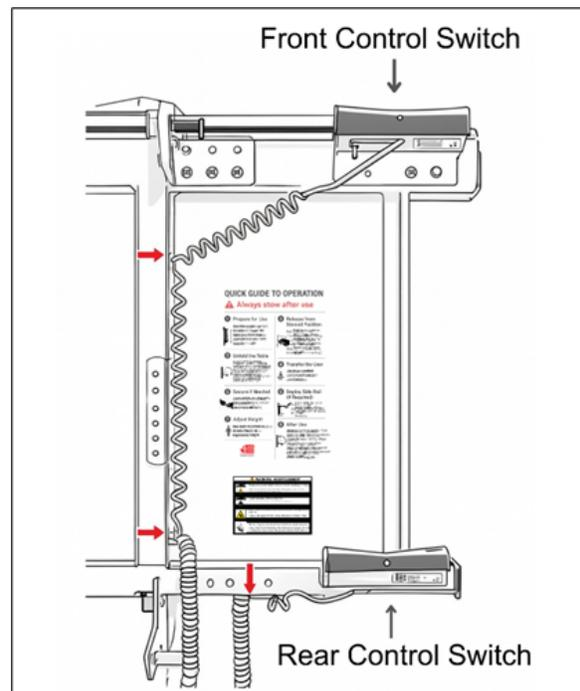

Figure 12 - Cable Clip Mounting Location (front and rear control switch)
- a. Use the pre-attached cable clips to secure the front switch cabling to the table assembly frame. The pre-drilled holes are marked on the frame with a red arrow indicating the correct mounting locations for the clips (refer to Figure 12).